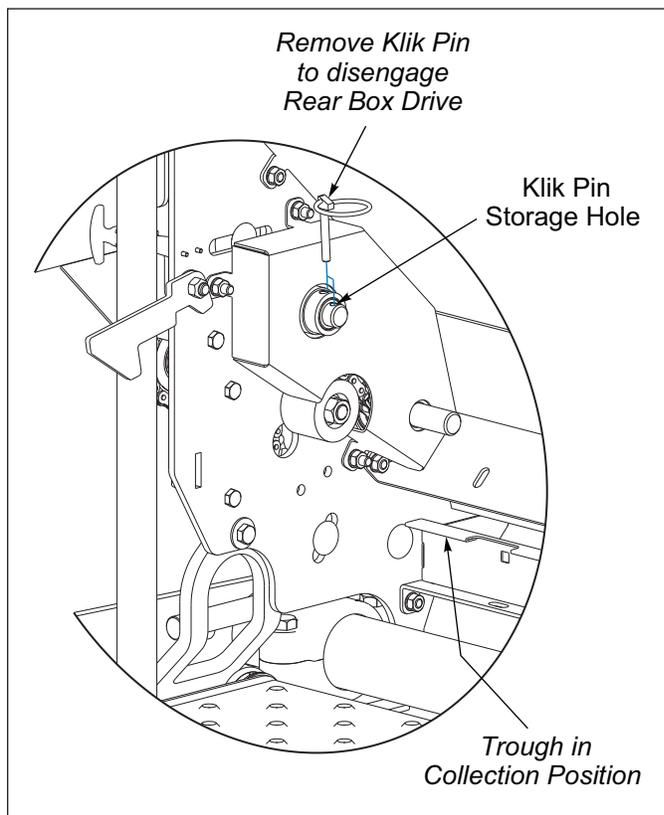

Figure 3-16: Trough in Collection Position
- Place the Calibration Trough in the collection position. **See Figure 3-16.** If using a Tarp, raise the Till 'N Seed and place a tarp under the front of the machine
2. Remove Rear Box Drive Disconnect Klik Pin from the Front Box 5/8 Calibration Hex. **See Figure 3-16.**